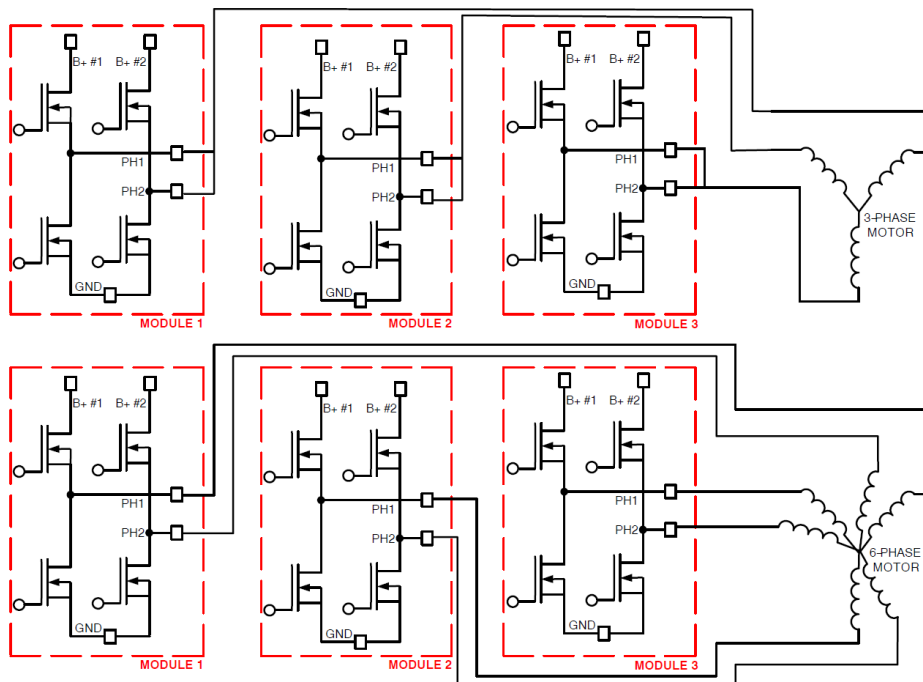

Figure 2: Combining 3 APM17 modules in 3-Phase or 6-Phase Motor Drive Arrangements
- The APM17 family (APM = Automotive Power Module) is a series of integrated dual half bridge (2-phase) modules, which are easily connected externally to form a single half bridge suitable for twice the phase current. **Three modules may be configured as the power inverter that can drive a 3-Phase motor or 6-Phase motor**. Figure 2 shows the 3-Phase and 6-Phase configurations with the APM17 module.